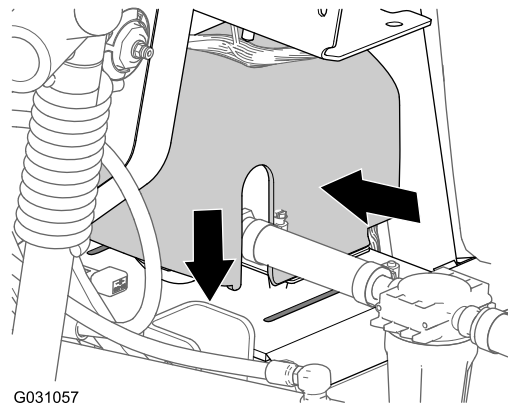

Figure 185
2. Align the rinse-pump cover over the saddle plate for the rinse pump (Figure 185).
3. Press together the sides of the rinse-pump cover and align the tabs of the cover with the saddle plate (Figure 185).
4. Insert the tabs into the slots and release the sides of the cover (Figure 185).